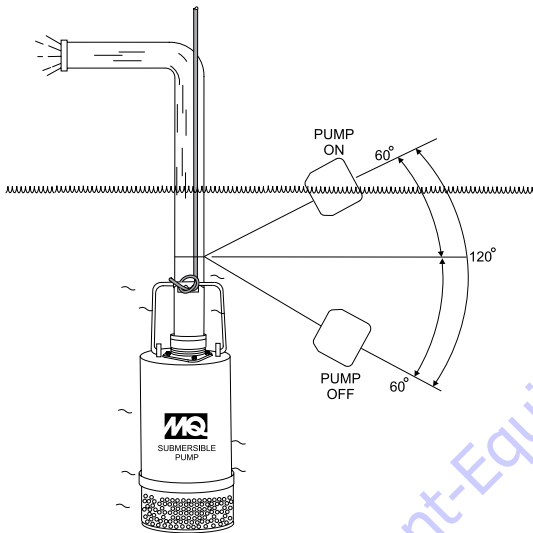
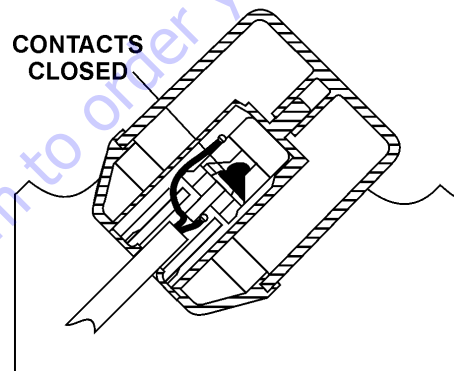
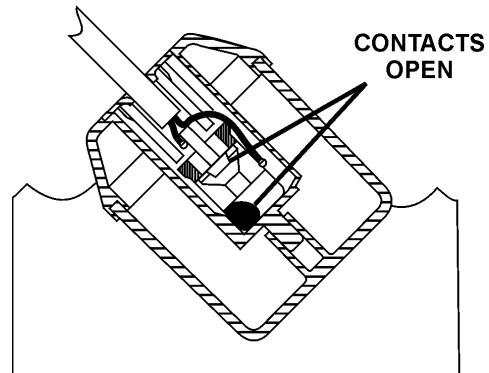

Figure 3. Pumping Range (Float Switch)
Figure 4. Float Switch (Closed)
Figure 5. Float Switch (Open)
There is a tilt-sensitive mercury switch hermetically sealed within each float. As the liquid level (water) rises or falls, the float changes its angle until the mercury switch makes (closed, Figure 4) or breaks (open, Figure 5) the circuit. Maximum pumping range is 120 degrees. See Figure 3 below.
3. Determine the length of the float switch wires, then secure float switch wires to pump discharge hose. See Figure 3 and Table 3 to determine the pumping range.